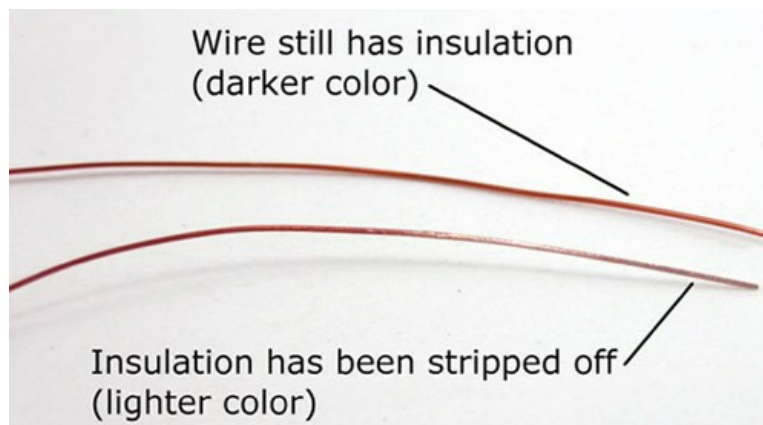

Figure 17. Close-up view of two pieces of wire, showing the difference in color once insulation has been removed.
16) Repeat this multiple times while you rotate the wire. It can be difficult to tell when the insulation is removed, but if you look very closely, you should see that the underlying wire is a different color than the insulation (Figure 17).